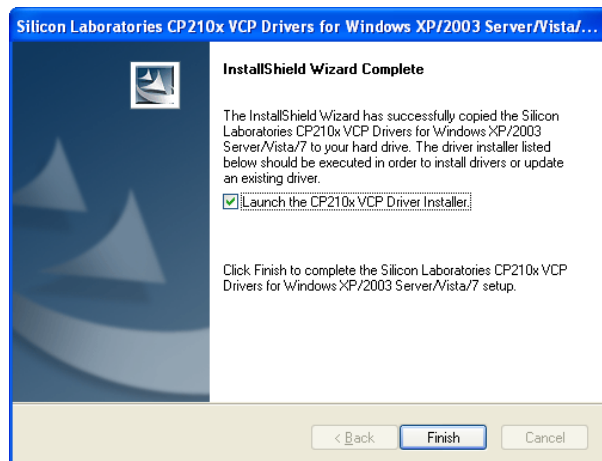

Figure 3 – Window that appears at conclusion of driver installation.
- Allow the software wizard to install the Virtual Communications Port (VCP) driver automatically. At the end of installation, the window in Figure 3 should appear.